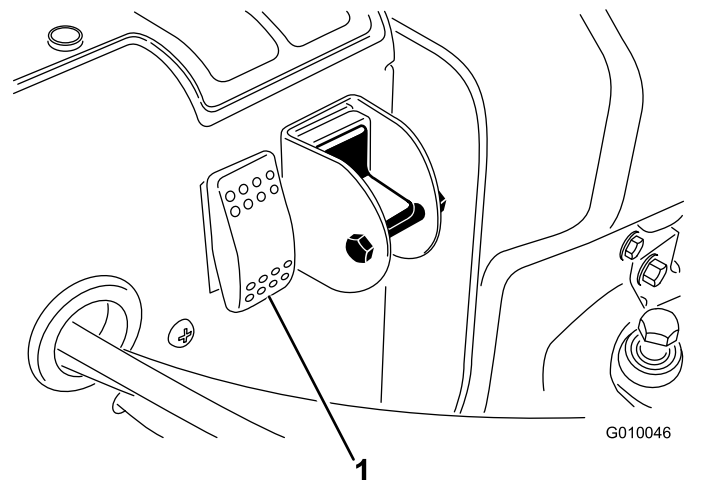

Figure 32
2. Press the system reset switch (Figure 32).